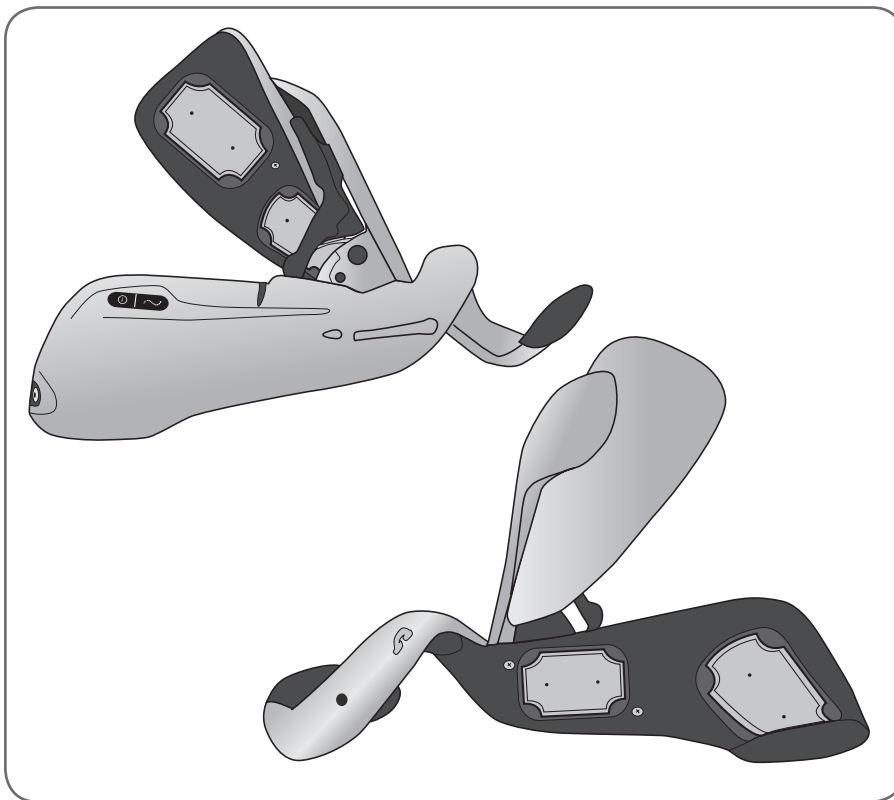

Figure 8-8: Cloth electrodes in place on the Orthosis.
8. Check that each cloth electrode is securely attached to its corresponding electrode base. See Figure 8-8.